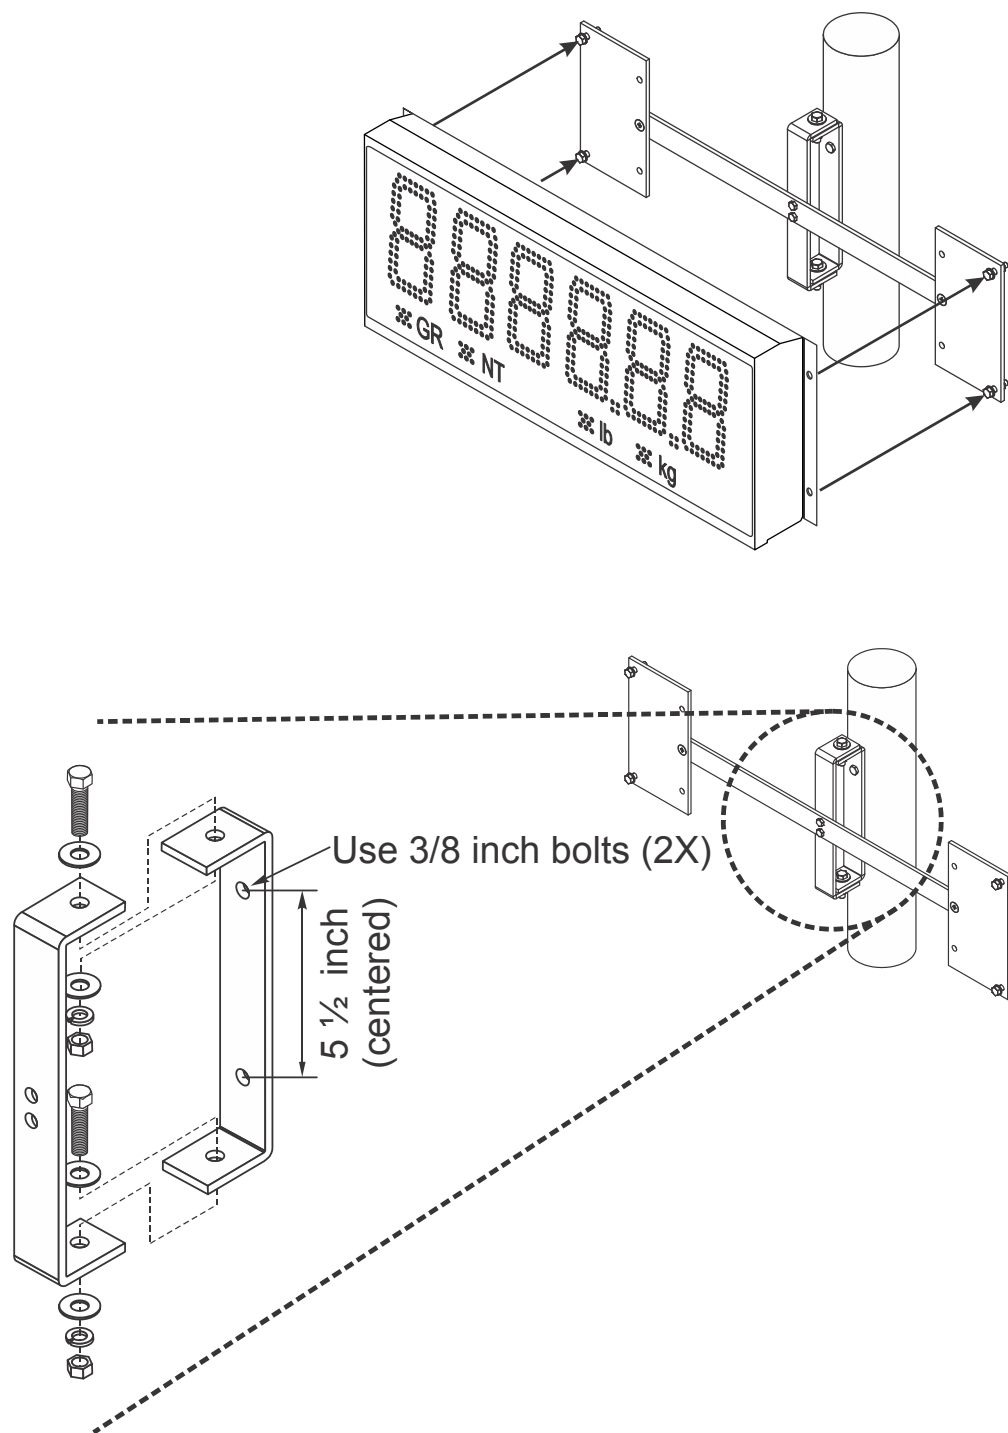

Figure 3.6 Pole mounting bracket
- Select appropriate height and fasten the small "C" bracket to the pole using the mounting clamps provided or using the 3/8" bolts in the provided bolt holes. Spacing is shown in Figure 3.6.
3. Fasten the XR display to the pole mounting bracket as outlined in the mounting instructions and shown in Figure 3.6.